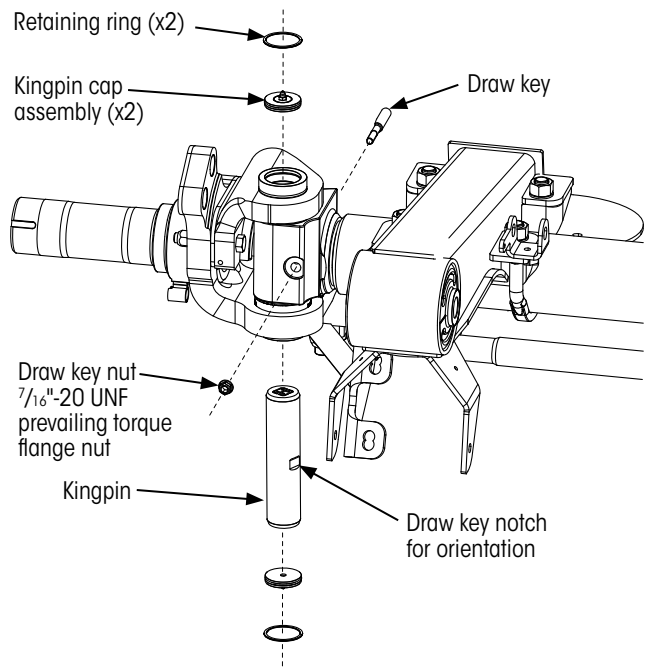

Figure 17: Kingpin exploded view
1. Remove top and bottom retaining rings (Figure 17) securing the kingpin caps in position.